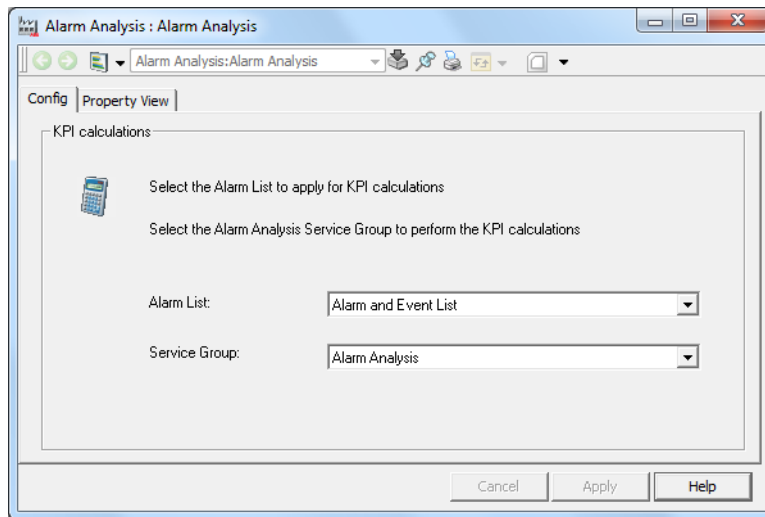

Figure 59. Alarm Analysis Configuration
2. By default, the Alarm Analysis aspect selects one Alarm List aspect and one Alarm Analysis Service Group. It is possible to modify the selections in the Alarm List and Service Group drop-down lists (refer to Figure 59).